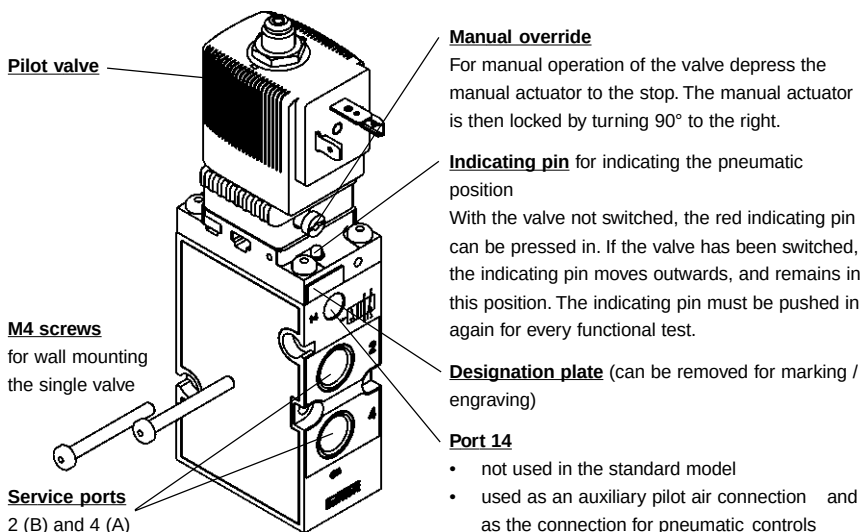

Figure 3: Mounting single valve / Manual override / Pneumatic position indicator
4.5 Mounting single valves (Fig. 3)